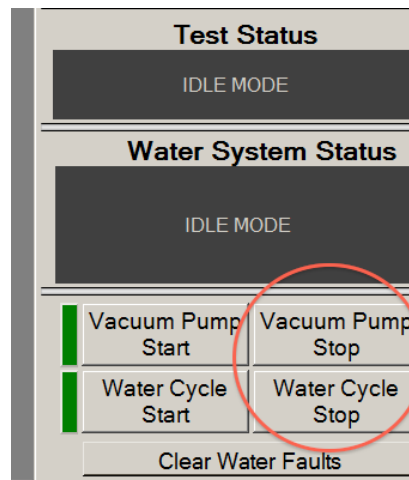

Figure 18: Vacuum shut down
17. Shut down Water Cycle: Click on **“Water Cycle Stop”** located on the Test Status Panel. See figure 18.